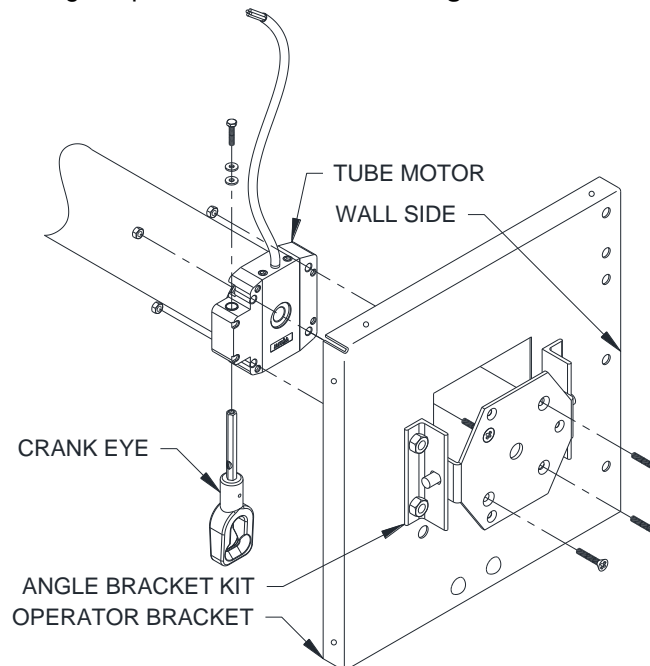

Figure 12.2 – 3" Shaft Assembly
Slide the operator bracket over motor head. Position bracket so that crank shaft is vertical & opposite the wall side. Align the (4) holes in the angle bracket kit with the corresponding holes in the tube motor and fasten using the provided hardware. See **Figure 12.2**.